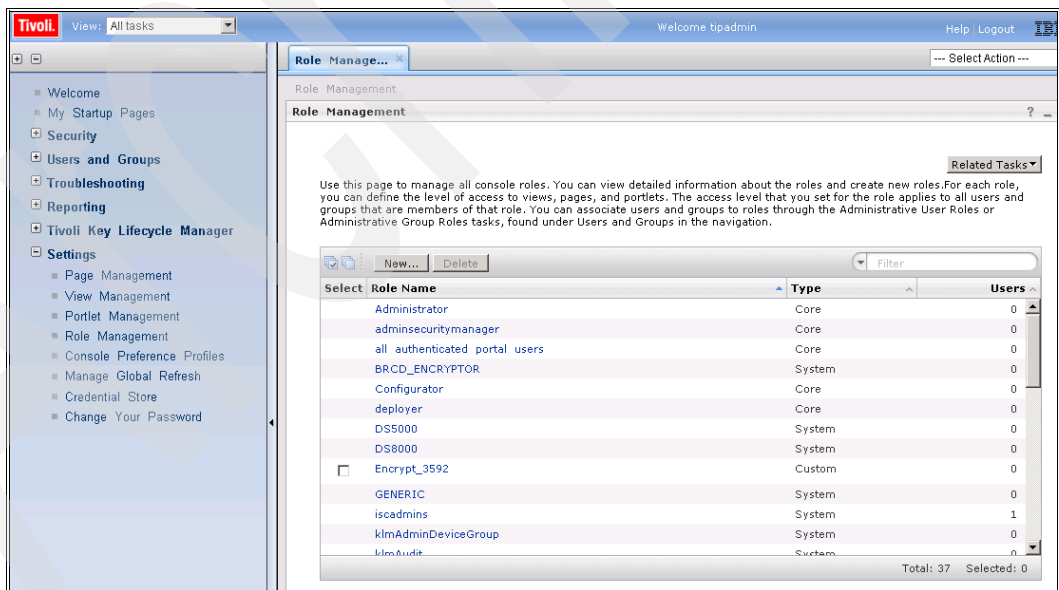

Figure 9-36 Role added successfully
6. The successfully created role is included in the Role Name list (Figure 9-36). You can now log out.